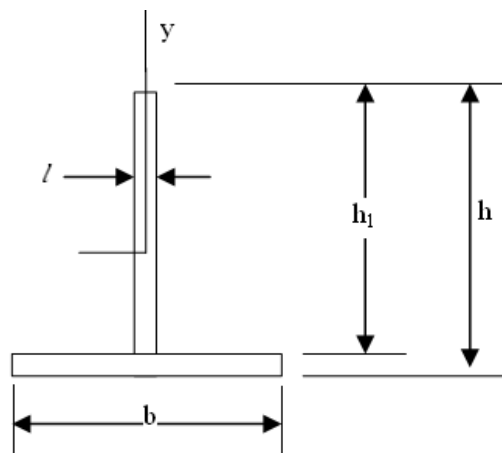

Figure 8b
8. a. A Rectangular beam is simply supported at the end and carries a point load at the center . Establish the relation between maximum bending stress and maximum shear stress (8)
b. The T-beam shown in the figure 8b has cross- sectional dimentions : $b = 220 \text{ mm}$, $l = 15 \text{ mm}$, $h = 300 \text{ mm}$, and $h_1 = 275 \text{ mm}$. the beam is subjected to a shear force $V = 60 \text{ kN}$. Determine the maximum shear stress in the web of the beam. (8)